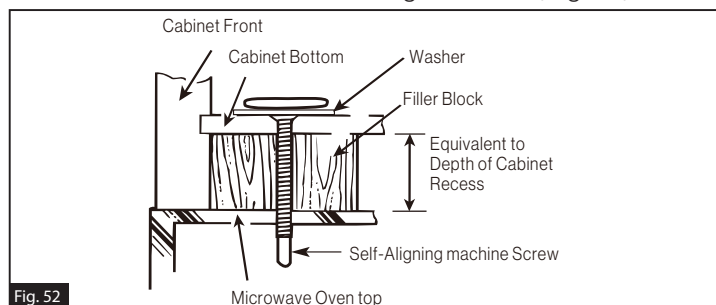

Fig. 52
1. Lift microwave, tilt it forward, and hook slots at back bottom edge onto four lower tabs of mounting plate. Rotate front of oven up against cabinet bottom. (Fig. 52)
3. The Filler Block is only used for recessed cabinet and front overhang cabinet (see the type of the cabinet on page 4 & 5), you should place the Filler Block to the cabinet bottom before installing the oven. (Fig. 52)